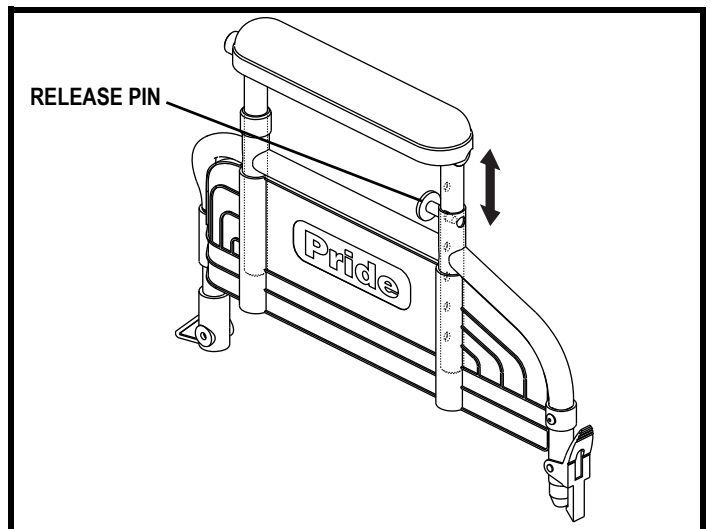

Figure 23. Armrest Height Adjustment
1. Pull back and hold the release pin located on the armrest. See figure 23.